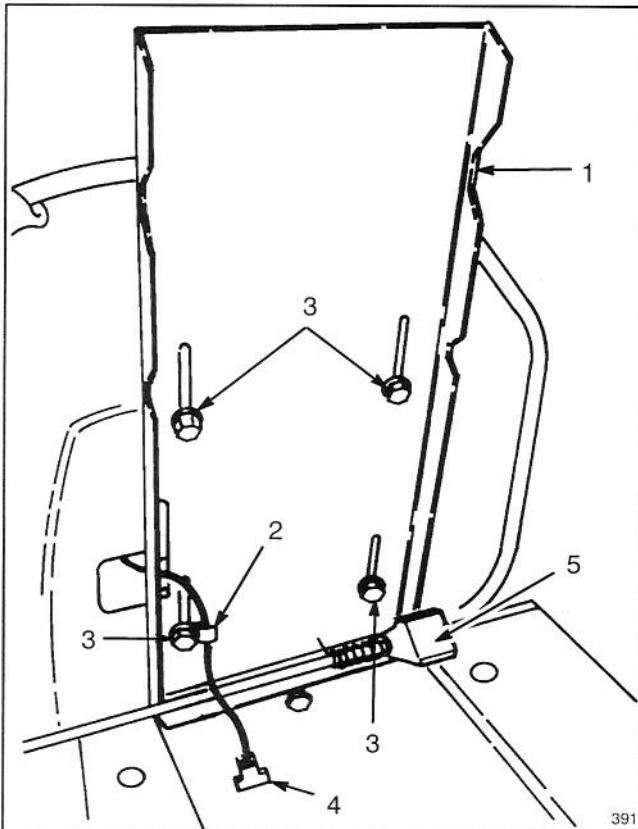

Figure 1
1. Position seat onto seat base, inserting seat switch cable thru slot and aligning mounting holes (Fig. 1).
2. Slide wire clamp over seat switch wire (Fig. 1).
3. Using left front mounting slot in seat base, loosely secure wire clamp and seat to seat base with a capscrew and lock washer (Fig. 1).
1. Tip the seat up to expose battery. A seat prop latch on the underside of the seat will prevent the seat from falling rearward while working with battery (Fig. 1).